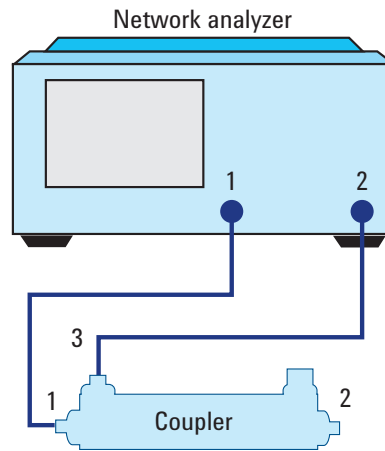

Figure 11. Equipment setup using network analyzer with coupler port 1 and port 3
5. Move test port 2 to port 3 of DUT, see Figure 11. **The unused port to be terminated with a 50 Ω termination.** Measure and record coupled port VSWR (S33) and verify the measurement is within the limits as shown in the specification.
7. With the same setup as Figure 11, **normalize S31¹.**